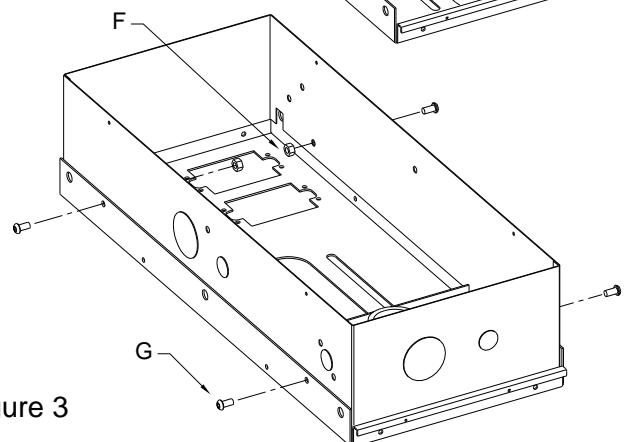

Figure 3
6. Attach the Plenum Cover to the CPM-ACP. See Figure 3.